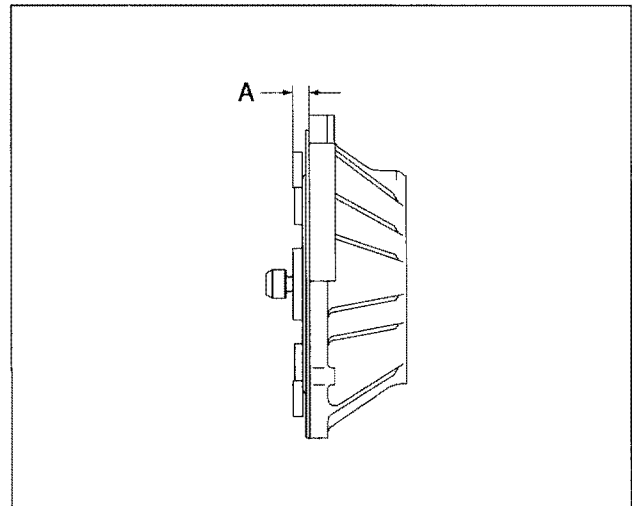

Figure 42. Torque Converter Installation Position
3. Measure the dimension A from the torque converter housing to the torque converter set block and confirm that the torque converter is inserted to the correct position (figure 42).